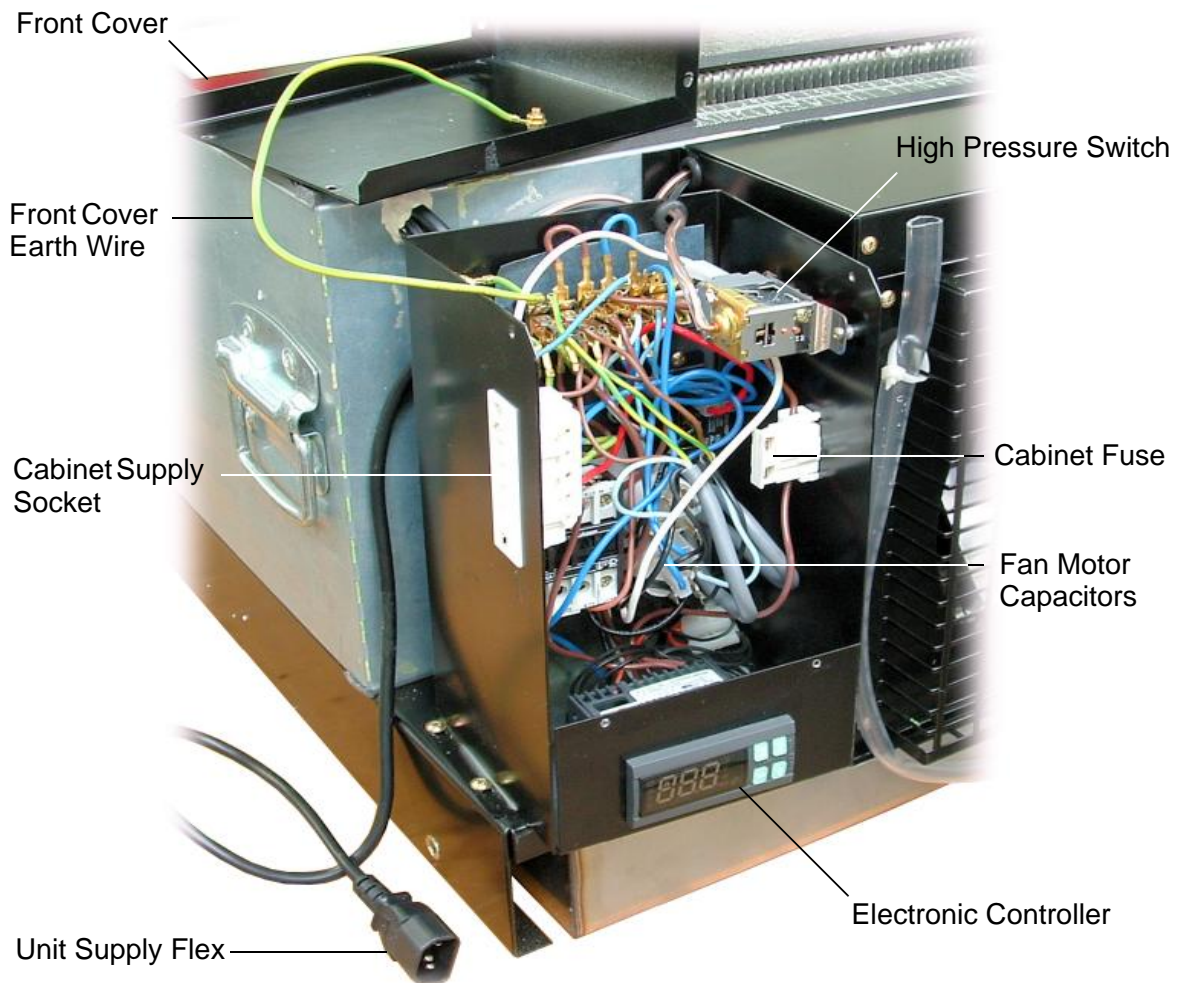

Figure 31: Controller Box (open)
3. Remove the front cover from the controller box by undoing the 2 front and 2 side fixing screws. Leave the front cover Earth wire attached (see Figure 31 on the following page).
4. The controller box electrics can now be accessed (see Figure 31 below).
7. Remove the front cover from the controller box by undoing the 2 front and 2 side screws. Leave the front cover Earth wire attached (see Figure 31 on page 57).